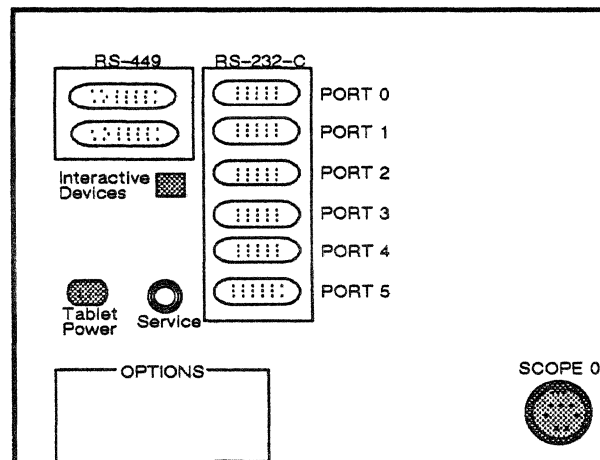

Figure 4. Port Configuration
- Four usable asynchronous RS-232 ports are supported (compared to five on the GCP) which reside on the Communications Connector Panel. See Figure 4. Port 0 and Port 2 are physically present but not usable. This means that the DMR-11 interface is not available with reduced size cabinet systems nor is multi-user functionality.